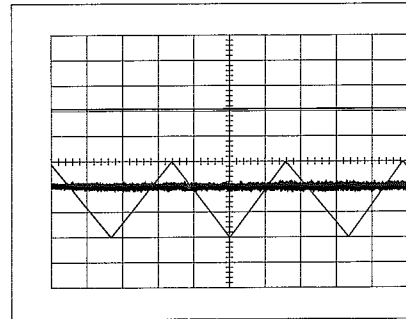

Figure 3-11 R401 adjusted to flatten "noisy" triangle signal
9. Adjust A32R401 for a flat "noisy" trace as shown in figure 3-11.